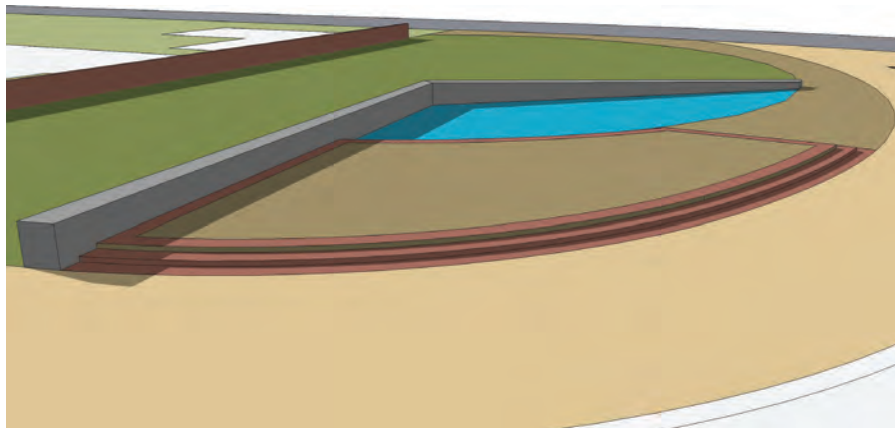
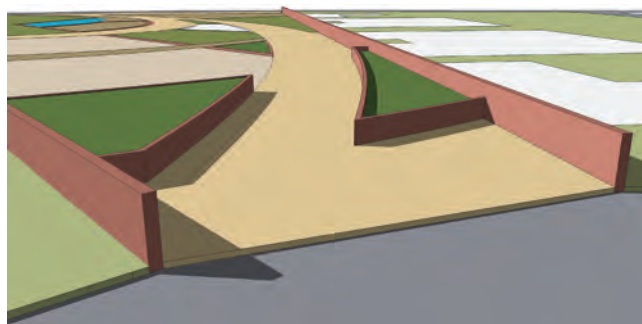

Fig. 18-31: The wall volume was adjusted to provide more detail (slanting downward).
Fig. 18-32: The perimeter wall and planting areas are Push/Pulled upward and provide volume.
2. Use Push/Pull to add volumes to walls, steps, buildings, and any other relevant locations (Fig. 18-31, Fig. 18-32).